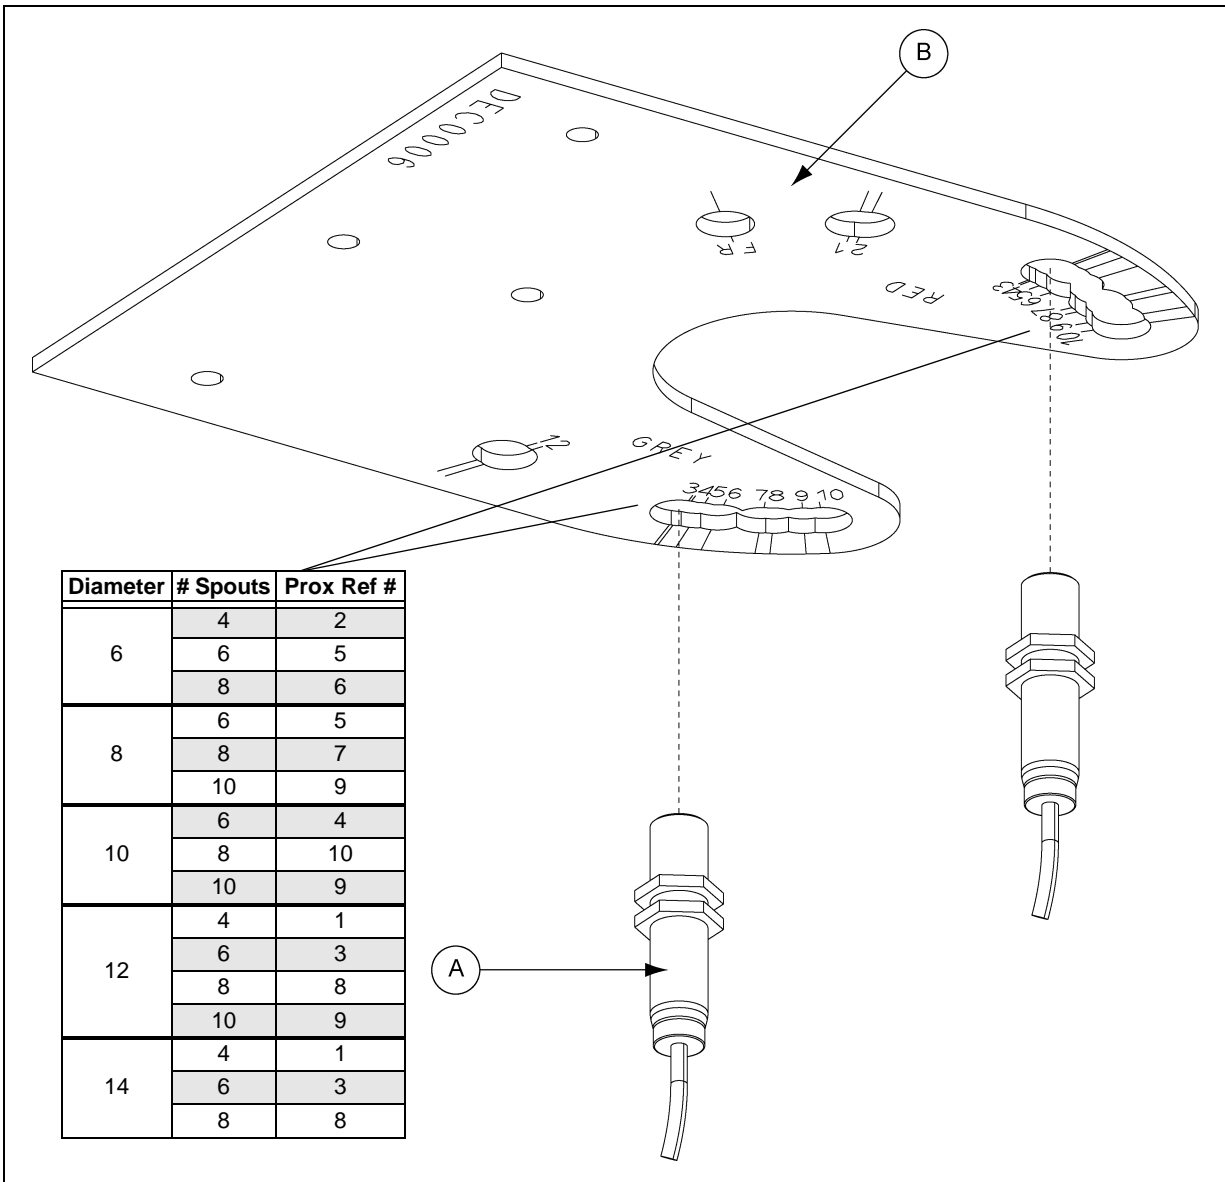
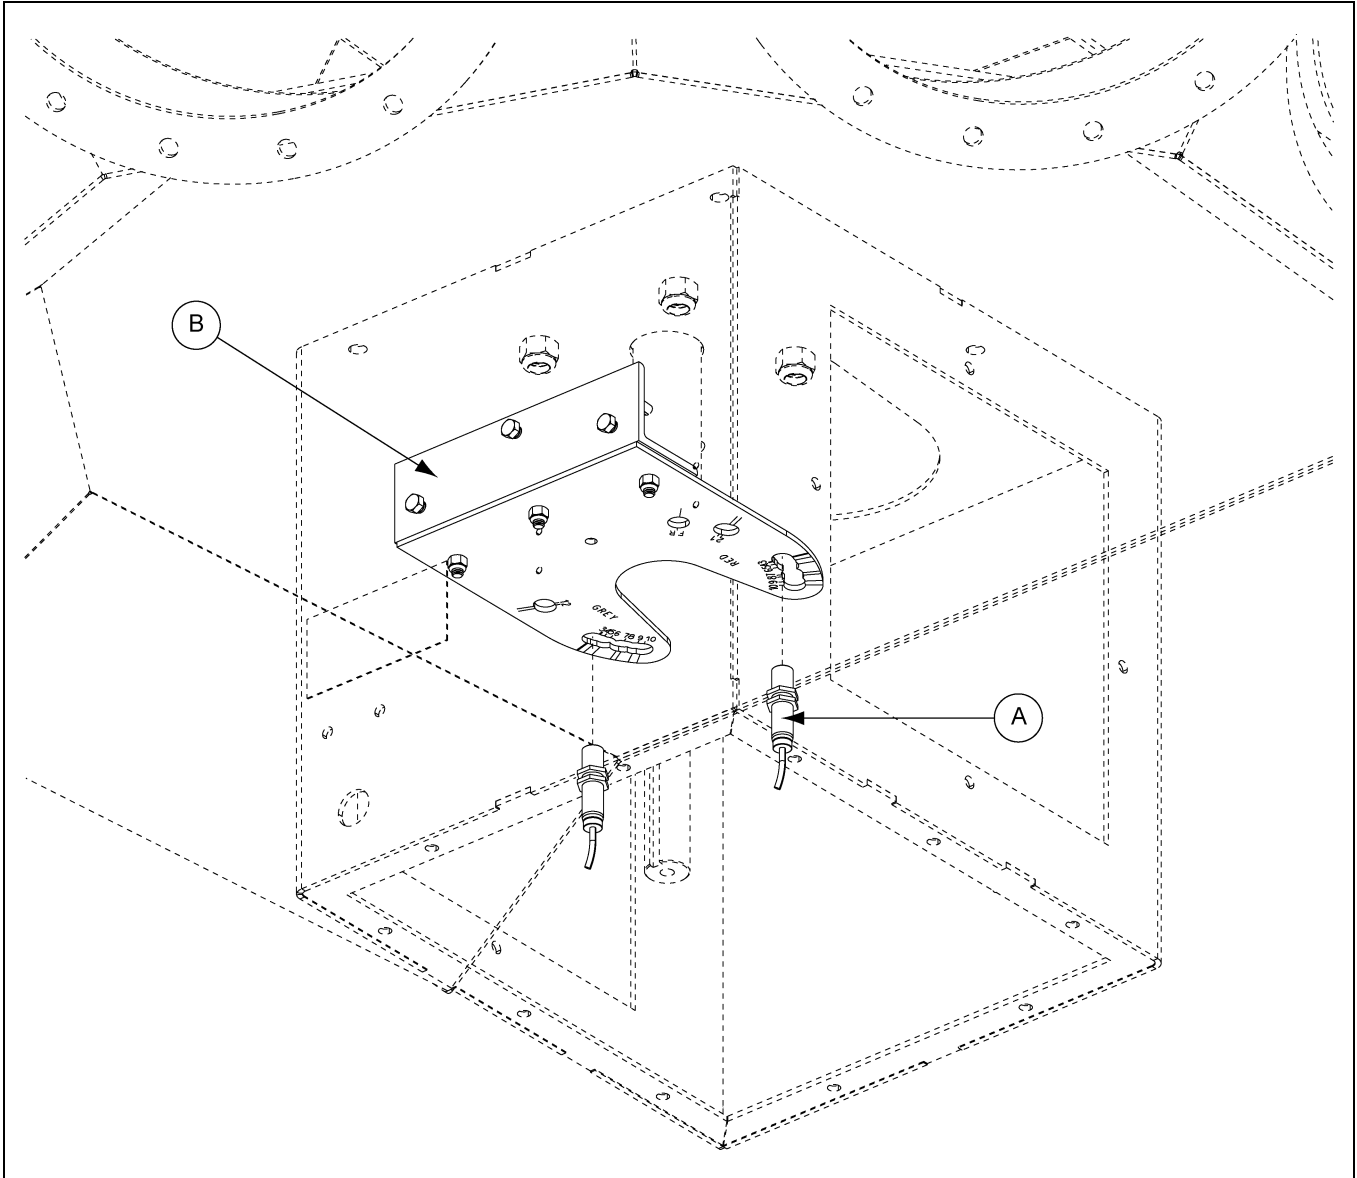

Figure 6D Proximity Sensor Location
Figure 6E Proximity Sensor Installation
NOTE: The location of the proximity sensor will be determined by the configuration of the distributor. Using the table shown in Figure 6D, locate the diameter and number of spouts of the distributor being used and note the proximity sensor reference number. This reference number is marked on the bottom of the proximity sensor bracket (DEC0006) (B) and identifies the location for installing the proximity sensors (A).
Install the two (2) proximity sensors (A) into the proximity sensor bracket (B) at the appropriate locations determined from the table. (See Figure 6D below and Figure 6E on Page 46.)